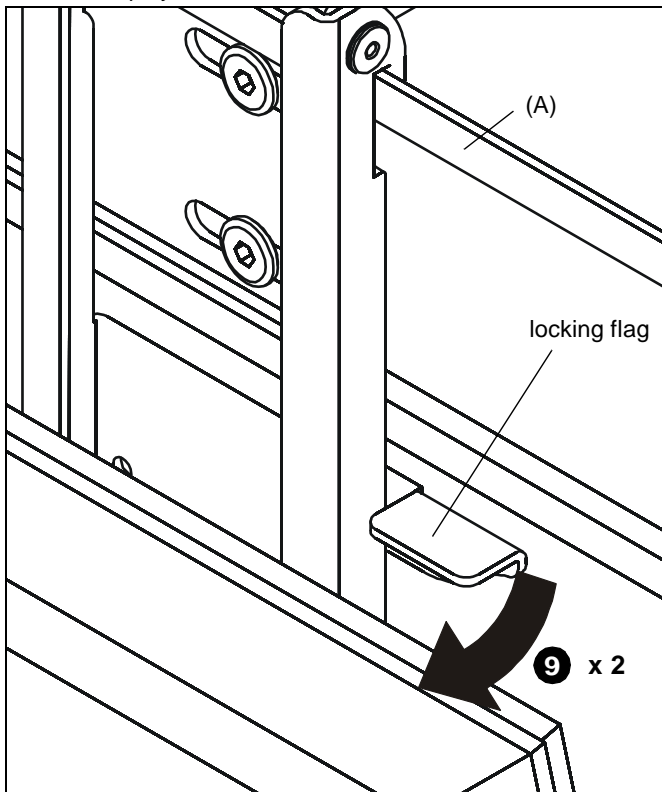

Figure 5
- Rotate flags on each interface bracket down to the closed position in order to lock brackets to wall plate. (See Figure 5)